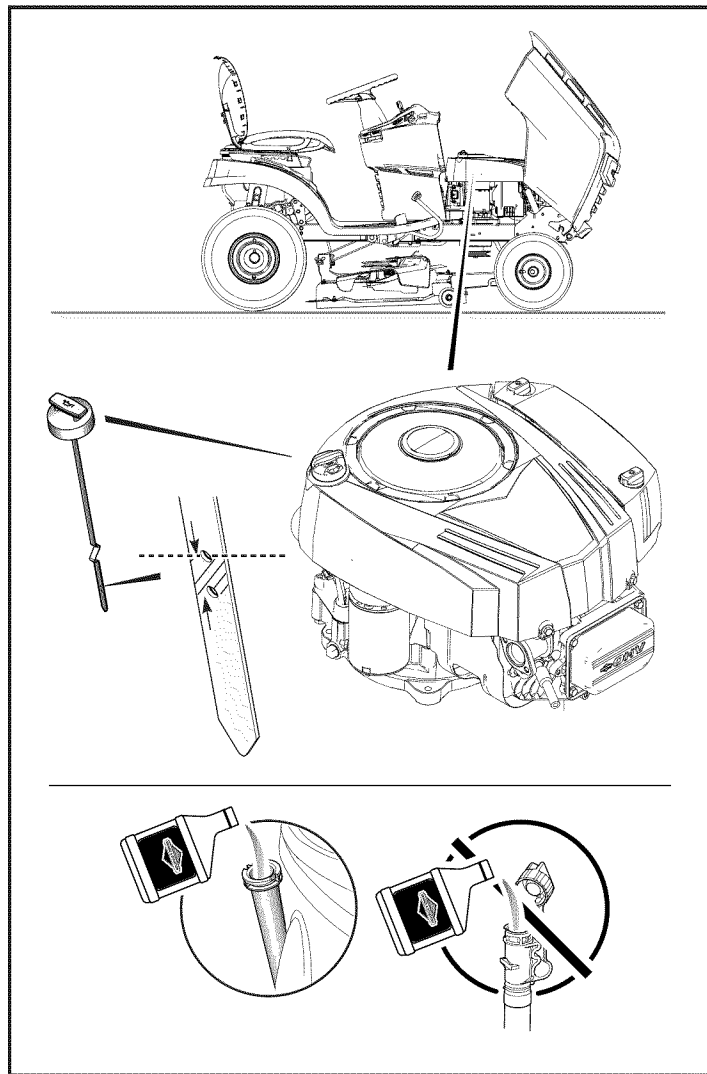

Figure 6
4. Remove the dipstick and wipe with a clean cloth (see Figure 6).